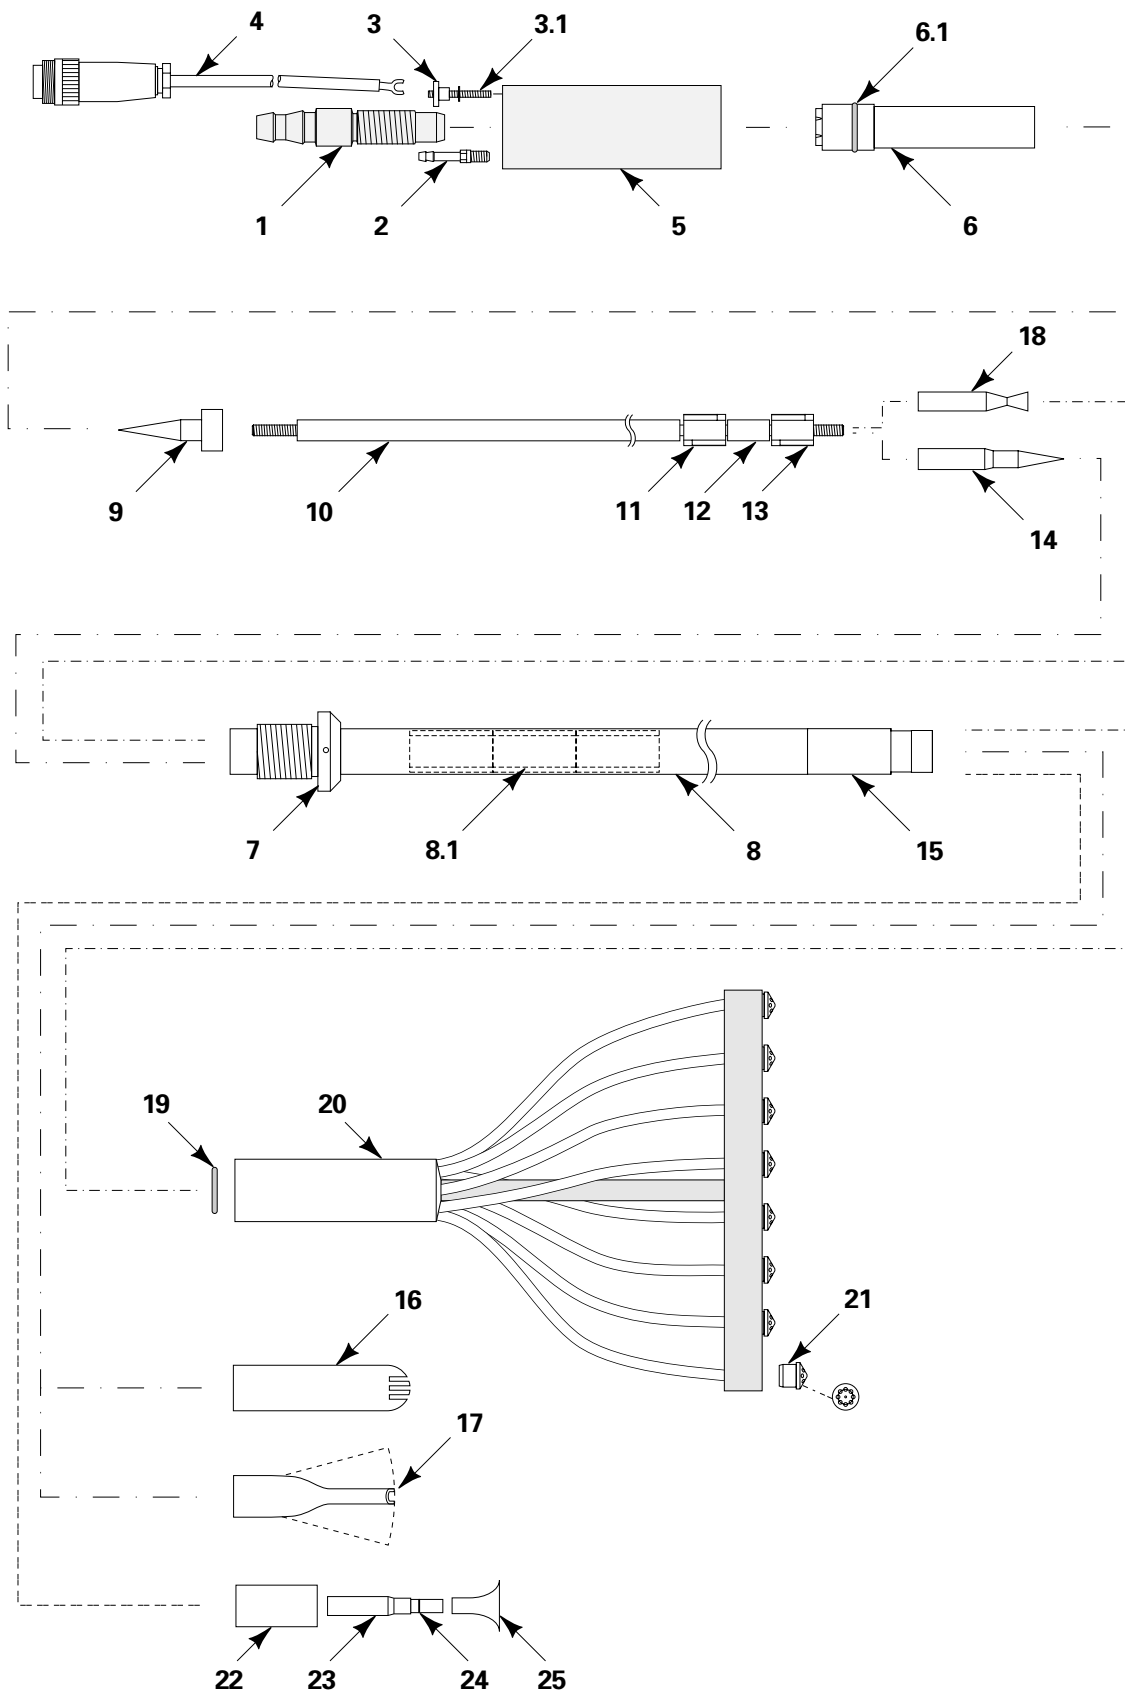

Figure 2
(The bold numbers in brackets in the text refer to the numbers in Figure 2 in the Spare Parts List).
1. Reassemble the spindle completely according to Figure 2 in the spare parts list.